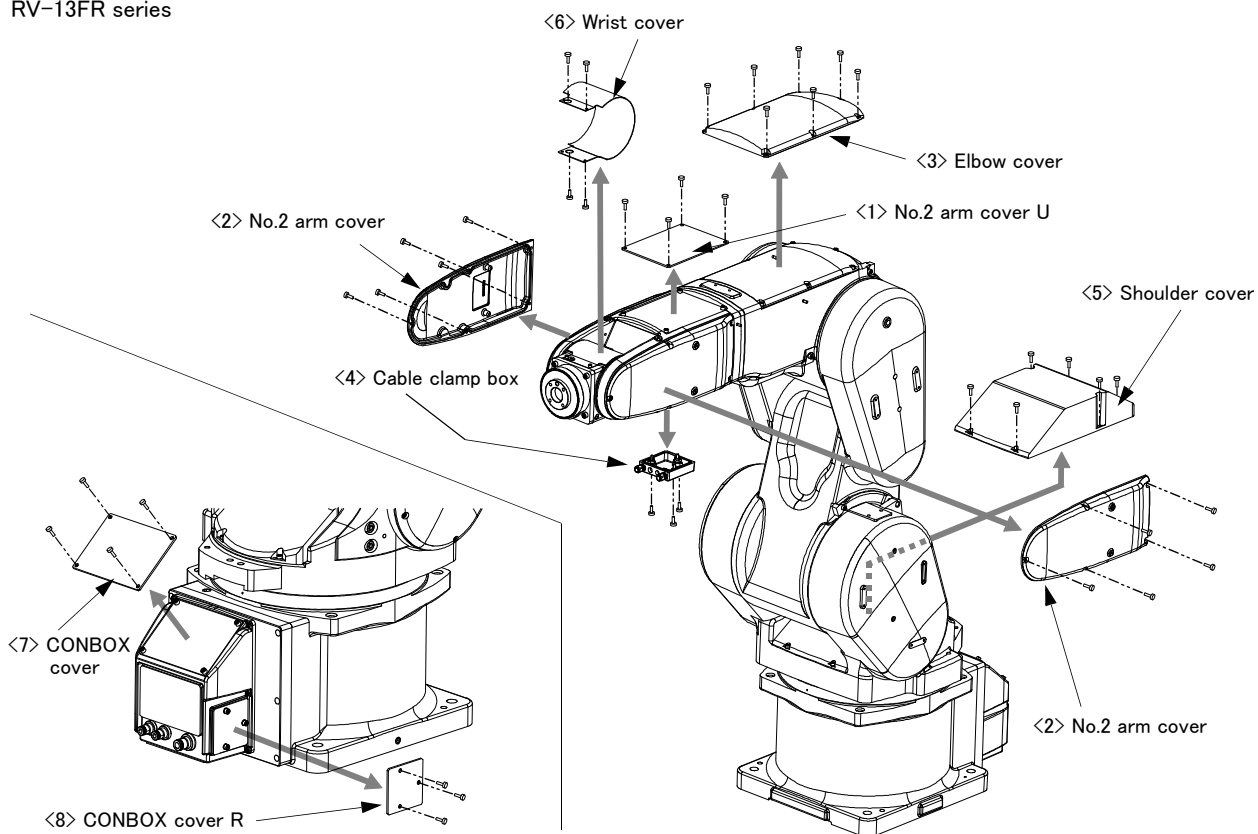

Fig.5-6 : Installing/removing the cover (RV-13FR series)
- (1) Refer to Fig. 5-6, and remove the covers.
- (2) The names of the cover and installation screw are given in Table 5-6. The number in Table 5-6 correspond to Fig. 5-6.
- (3) Depending on the robot's posture, some covers are hard to be removed. In such a case, change the robot's posture by performing jog operation to remove the covers.
- (4) When removing the wrist cover, move the J5 axis to the position of +90 degrees by jog operation.
- (5) When reattaching the covers after a maintenance inspection, proceed in the reverse order of their removal. Tightening the screw with the torque shown in Table 5-6.